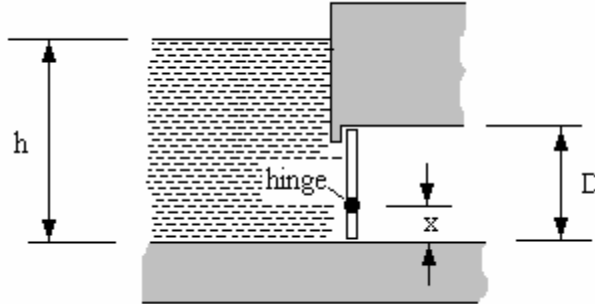

Fig.13
5. Fig.13 shows an L shaped spill gate that operates by pivoting about hinge O when the water level in the channel rises to a certain height H above O. A counterweight W attached to the gate provides closure of the gate at low water levels. With the channel empty the force at sill S is 1.635 kN. The distance l is 0.5m and the gate is 2 m wide.